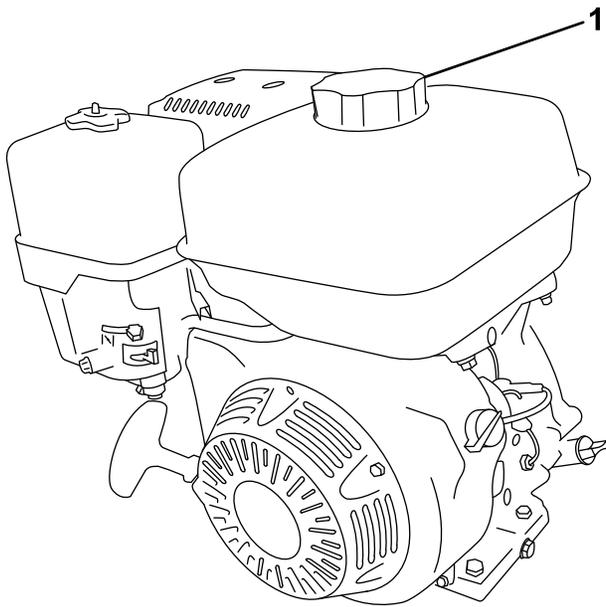

Figure 31
2. Clean around the fuel cap and remove it (Figure 31).
4. Install the fuel cap securely (Figure 31).